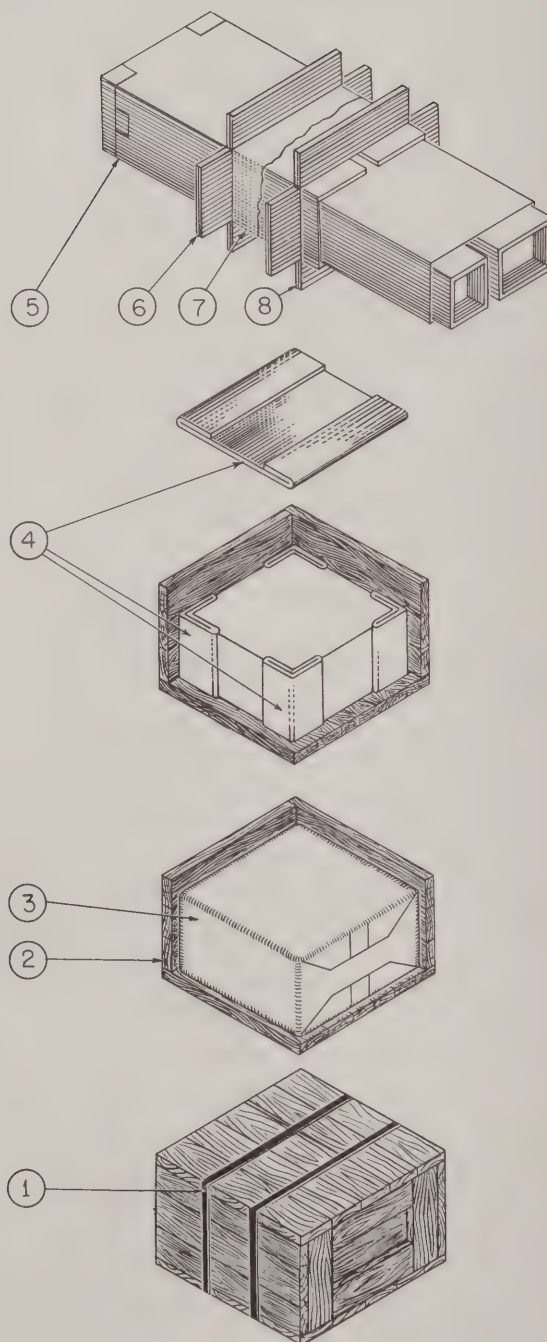

Figure 3-1. Unpacking
Set the crate containing the equipment in a position as shown in figure 3-1, step (1) and follow the procedure given below and illustrated in figure 3-1:
- (1) Clip the two metal bands that bind the wooden crate.
- (2) Pull out nails and remove the top cover and two sides.
- (3) Tear open the waterproof paper wrapping.
- (4) Remove the four corner supports and top corrugated pad.
- (5) Remove the corrugated box containing the receiver from the wooden crate.
- (6) Open the four flaps of the corrugated box and remove the corrugated container.
- (7) Tear open the moistureproof paper barrier.
- (8) Open the four flaps on the corrugated container and carefully remove the items of Radio Receiving Sets AN/FRR-21, -22, or -23.
- (9) Check the items removed against those listed in Table 1-1.